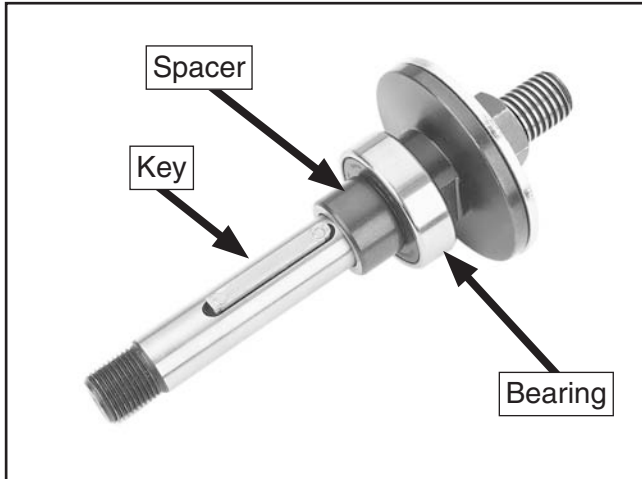

Figure 141. Components re-installed on arbor.
21. Re-install the larger front spacer and key onto the arbor. The arbor should look like the one shown in **Figure 141**.